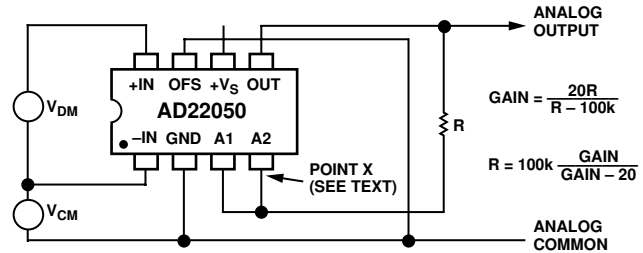
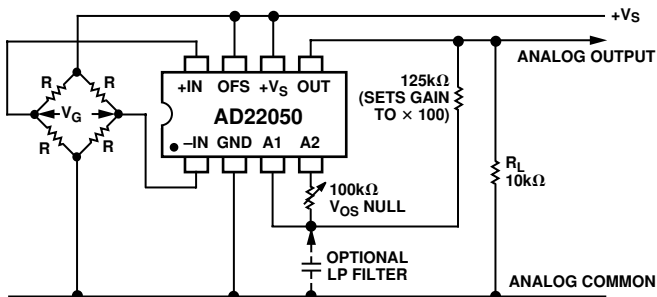

Figure 5. Achieving Gains Greater Than  $\times 20$
Figure 12. Typical Connections for a Strain Gage Interface Using the Offset Feature
**Increasing the Gain.** The gain can be raised by connecting a resistor from the output of the buffer amplifier (Pin 5) to its noninverting input (Pin 4) as shown in Figure 5. The gain is
Once again, a small offset voltage will arise from an imbalance in source resistances and the finite bias currents inherently present at the input of A2. In most applications this additional offset error (about  $130 \mu\text{V}$  at  $\times 40$ ) will be comparable with the specified offset range and will therefore introduce negligible skew. It may, however, be essentially eliminated by the addition of a resistor in series with the parallel sum of  $R$  and  $100 \text{ k}\Omega$  (i.e., at “Point X” in Figure 5) so the total series resistance is maintained at  $100 \text{ k}\Omega$ . For example, at a gain of  $\times 30$ , when  $R = 300 \text{ k}\Omega$  and the parallel sum of  $R$  and  $100 \text{ k}\Omega$  is  $75 \text{ k}\Omega$ , the padding resistor should be  $25 \text{ k}\Omega$ . A  $50 \text{ k}\Omega$  pot would provide an offset range of about  $\pm 2.25 \text{ mV}$  referred to the output, or  $\pm 75 \mu\text{V}$  referred to the attenuator input. A specific example is shown in Figure 12.
If the gain is raised using a resistor, as shown in Figure 5, the corner frequency is lowered by the same factor as the gain is raised. Thus, using a resistor of 200 kΩ (for which the gain would be doubled) the corner frequency is now 0.796 Hz-μF, (0.039 μF for a 20 Hz corner).
The AD22050 can be used to interface a strain gage to a subsequent process where only a single supply voltage is available. In this application, the midscale offset feature is valuable, since the output of the bridge may have either polarity. Figure 12 shows typical connections.
An ac excitation of up to  $\pm 2$  V can also be used because the common-mode range of the AD22050 extends to  $-1$  V. Assuming a full-scale bridge output ( $V_G$ ) of  $\pm 10$  mV, a gain of  $\times 100$  might be used to provide an output of  $\pm 1$  V (a full-scale range of +1.5 V to +3.5 V). This gain is achieved using the method discussed in connection with Figure 5. Note that the gain-setting resistor does not affect the accuracy of the midscale offset. (However, if the gain were lowered, using a resistor to ground, this offset would no longer be accurate.) A  $V_{OS}$  nulling pot is included for illustrative purposes. One-, two- and three-pole filtering can also be implemented, as discussed in the Low-Pass Filtering section.
A unique method of feedback around A1, provided by R9 and R7, sets the closed-loop gain of the preamplifier to  $\times 10$  (from the input pins). The feedback network is balanced by the inclusion of R6 and R8. The small value of R7 results in a more practical value for R9 (which would have to be 2 M $\Omega$  if the feedback were taken directly to the inputs of A1). R8 is not directly connected to ground, but to an optional voltage of one half that is applied to Pin 7 (OFS). It is trimmed to within close tolerances through R10 and R11. This allows the output of A1 to be offset to midscale, typically  $+V_S/2$ , by tying Pins 6 and 7 together. (For an example of the use of this feature, see Figure 12.) The gain is adjusted by the single resistor R5, which acts only on the differential signal. More importantly, it also results in much less feed forward of the common-mode signal to the output of A1, which, being a single-supply circuit, has no means of pulling this output down toward ground in those circumstances where the common-mode input is very positive while the net differential signal is small. (The output of A1 is the collector of a PNP transistor whose emitter is tied to  $+V_S$ .) R16 is specifically included to alleviate this problem.